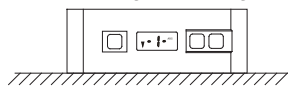

Fig.3
- Install battery, or long press(>6s) "on/off" button to power and then power on, "-1-" appears on the display(Fig.3).